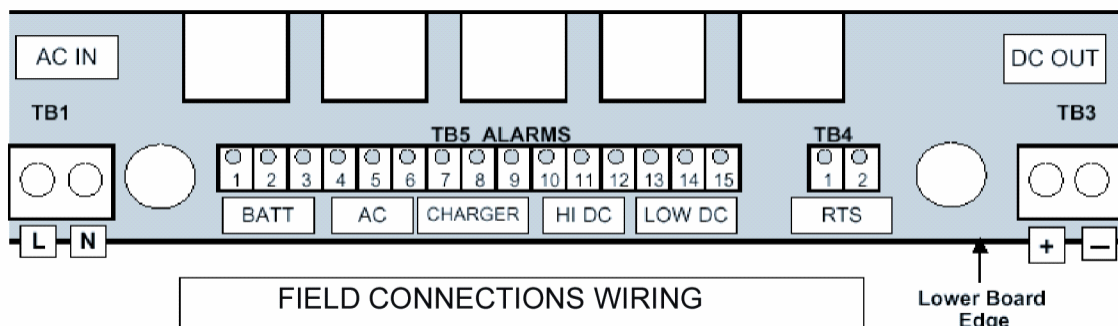

FIGURE 2A
- D. Connect the DC output conductors to TB3. Make the connections in the order shown in Figure 2A (negative ground) or Figure 2B (positive ground). The terminals accept 14 through 6 AWG (2.5 through 16 mm²) conductors. Tighten connections to 10.5 Lb-In (1.2 Nm).